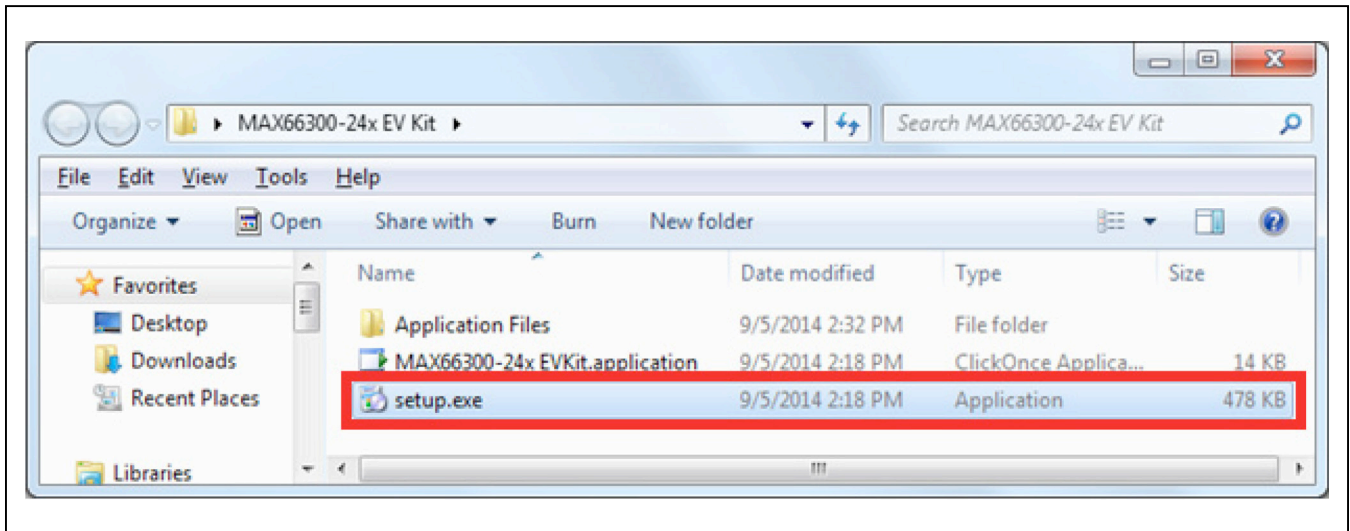

Figure 2. MAX66300-24x EV kit Setup
- 6) Open the “MAX66300-24x EV Kit” folder, as shown in Figure 2 and double-click the “setup.exe”.